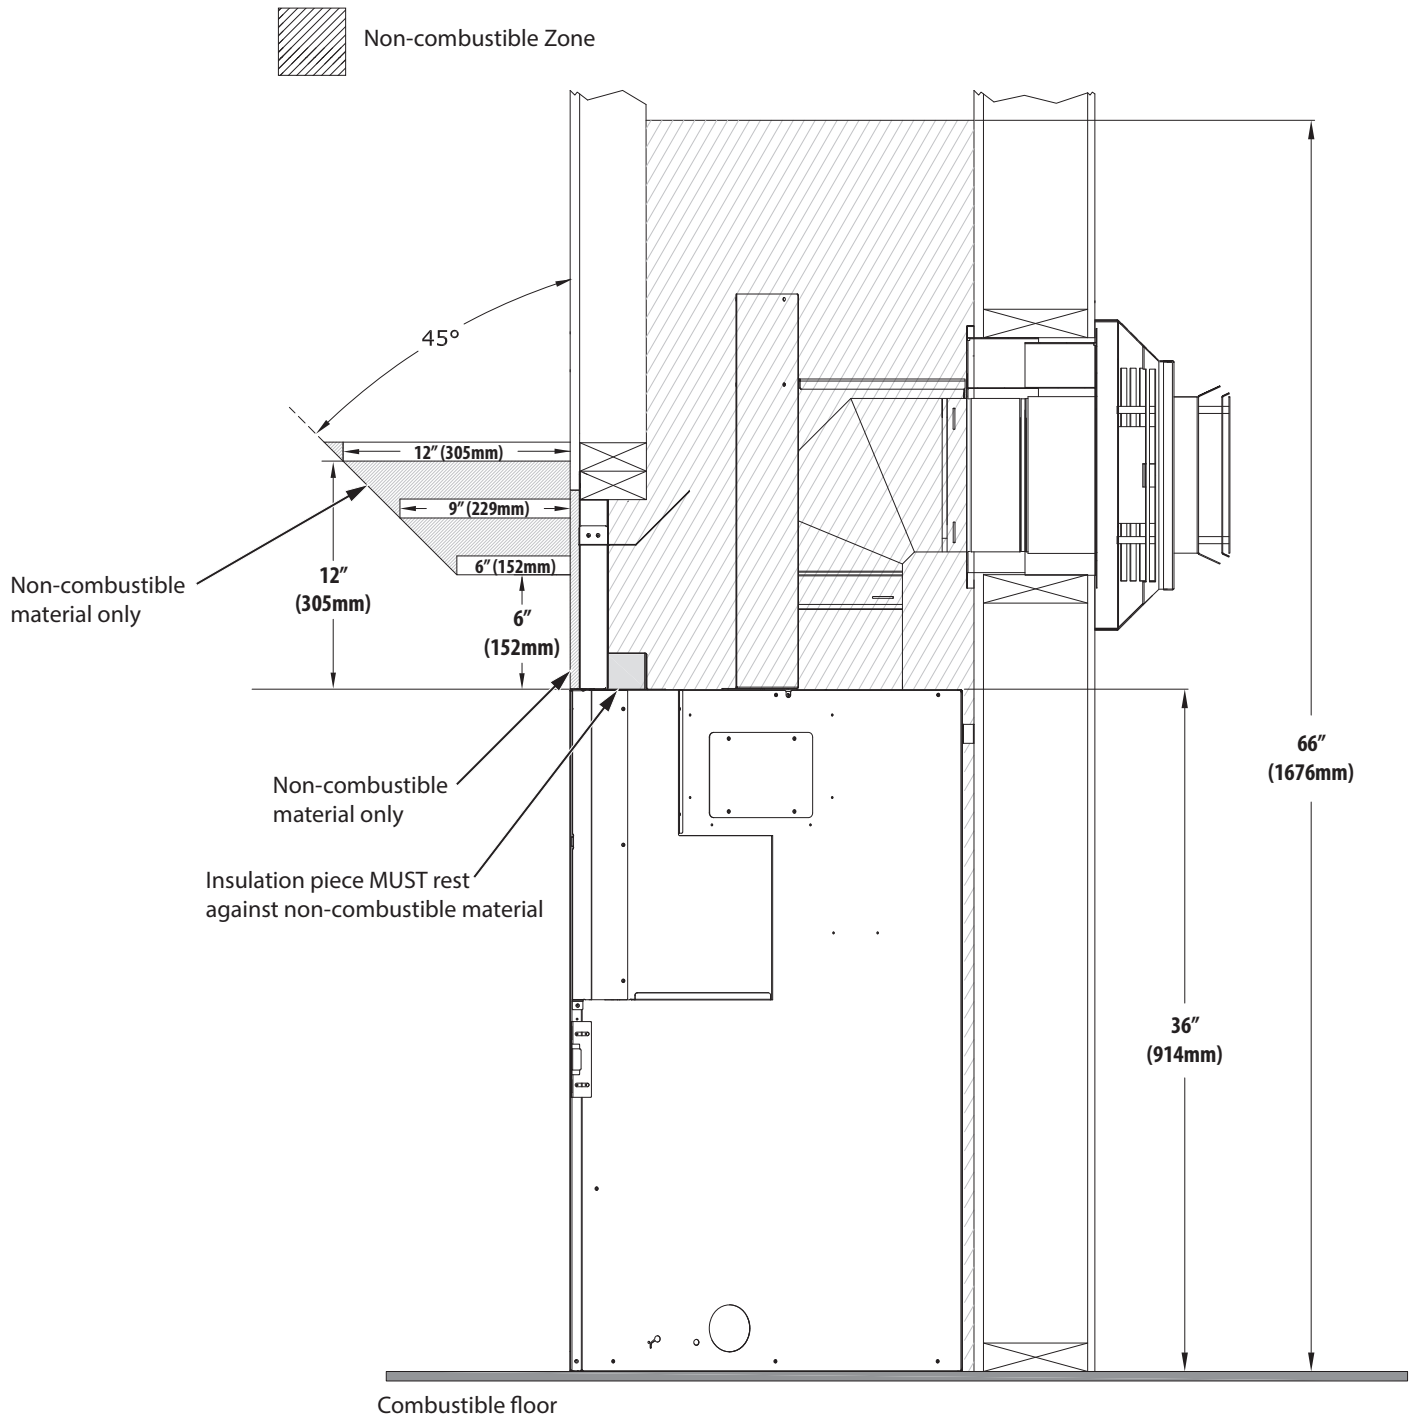

FIGURE 4.2 Non-combustible Mantel Requirements
- **Non-combustible Mantel Projections** - Minimum Vertical and Maximum Horizontal: A minimum vertical clearance of 6" (152mm) above the top of the appliance to a maximum 6" (152mm) depth of a non-combustible mantel. Follow projection 1" (25mm) up for every 1" (25mm) deeper. See **FIGURE 4.2** on page 24.